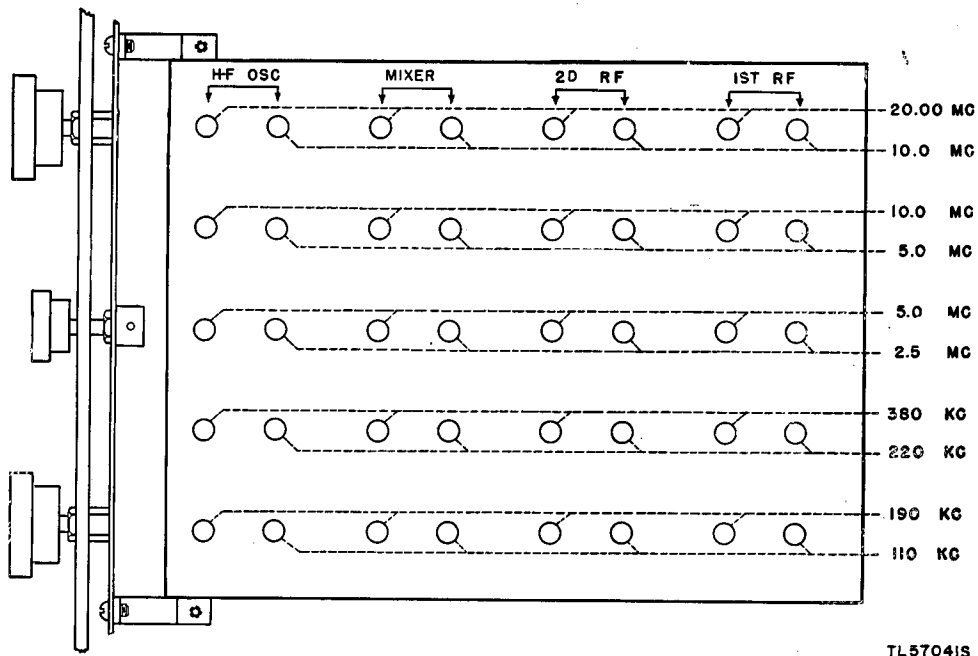
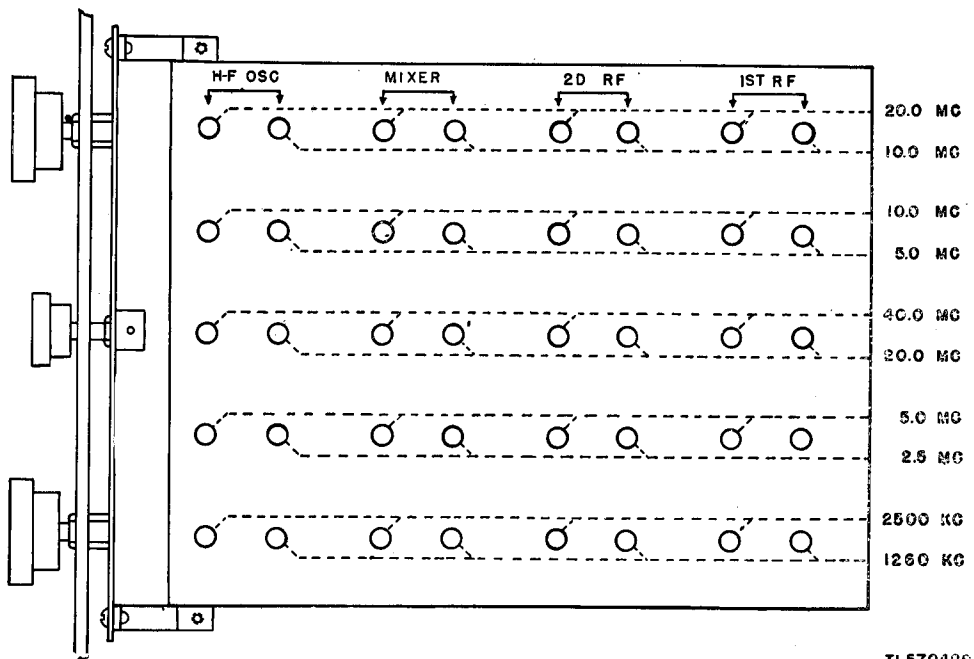

Figure 46. Radio Receiver BC-779-(*), alinement chart.
Figure 47. Radio Receiver BC-794-(*), alinement chart.
shown in figures 46, 47, 48, and 49, respectively. If necessary, the second harmonic can generally be used when the fundamental frequency is not available. For example, a signal generator covering all frequencies from 100 kc to 20 mc, in addition to being ideal for checking Radio Receiver BC-779-(*), could be used to check Radio Receiver BC-794-(*), by using the second harmonic of 20 mc instead of the 40 mc called for in figure 47. The signal generator should have an output of about 100 microvolts and an output impedance of approximately 100 ohms for best results when aligning the r-f and h-f oscillator circuits. For i-f alinement these values are not critical. The frequency calibration of the signal generator is extremely important in order that the receiver dial calibration be correct.
b. To correct dial calibration, refer to an alinement chart, figure 46, 47, 48, or 49 for the location of the h-f oscillator adjustments as well as the signal frequencies at which the settings should be made. If the 2.5- to 5.0-mc band is to be corrected, the signal generator may be *accurately* set to 2.5 mc and its second harmonic (if strong enough) used for the 5.0-mc end of the band. In either case, whether the 5.0-mc frequency is the fundamental or second harmonic, the 5.0-mc frequency *must* be accurate. This requires that the setting of the signal generator be accurately adjusted by the use of a frequency meter as described in paragraph 94. The output of the signal generator should be unmodulated and the SIGNAL MOD-CW switch on the receiver turned to CW. Set the BEAT OSCILLATOR control at 0, the AUDIO GAIN at 10, and the AVC-MANUAL switch on MANUAL. Disconnect the output meter and use headphones or loudspeaker to make the necessary adjustments by the zero beat method. Connect the signal generator to the antenna terminals for this test.
c. Set the receiver MAIN TUNING dial to the 5.0-mc end and then tune it to zero beat with the 5.0-mc output of the accurately calibrated signal generator. Notice the approximate dial error. Then turn the MAIN TUNING dial slightly toward the 5.0-mc calibration line until the beat note rises to a high pitch. Do not turn the dial far enough to raise the beat note so high that you cannot hear it. With the alinement screw driver adjust the trimmer capacitor marked H-F OSC-5.0 MC (fig. 46, 47,
48, or 49) until the beat note is again zero. Turn the MAIN TUNING dial still farther toward the 5.0-mc line and make a further adjustment of the trimmer capacitor to return to zero beat. Repeat this procedure as many times as necessary to bring the dial to exactly 5.0 mc. (It is evident that the dial could be set at once on exactly 5.0 mc and the trimmer turned enough at one time to produce zero beat, but the step-by-step method is recommended). Accurately set the signal generator to 2.5 mc by calibrating it with the frequency meter. Then tune in the 2.5-mc signal at the l-f end of the MAIN TUNING dial and correct the calibration step-by-step, as before, using the inductance trimming adjustment H-F OSC-2.5 MC (fig. 46, 47, 48, or 49). Accurately set the signal generator for an output of 5 mc again, and tune the receiver to this frequency. It will be found that the adjustment of the inductance at 2.5 mc has changed the correction previously made at 5.0 mc. This is perfectly normal, because an adjustment at one end of the dial also affects the other end of the band. It will therefore be necessary to go back and forth several times from 2.5 to 5.0 mc in order to bring both ends of the dial scale into exact agreement with the signal frequency. Be sure that the signal generator is always *accurately* set.
c. Starting with the 2.5- to 5.0-mc band, set the MAIN TUNING dial at 5.0 mc (band spread dial at 100) and adjust the frequency of the signal generator for peak deflection of the output meter. Then check and adjust the setting of the trimmer marked MIXER and 5.0 MC in figure 46, 47, 48, or 49 for maximum reading on the output meter. Repeat this procedure on trimmers indicated as 2D RF and 1ST RF in the same row. If readjustments on one of these settings result in a sizable increase in output meter reading, slightly alter the SENSITIVITY control to reduce the reading to half-scale. After each adjustment check the tuning of the receiver to make sure that the test signal is still accurately tuned. The BAND SPREAD control may be used as a vernier for this purpose in those bands in which it operates (par. 15c). *This tuning check is extremely important at the high end of the 10- to 20-mc and 20- to 40-mc bands where there is some slight interaction between the mixer and h-f oscillator circuit.* After checking the three trimmers at the high end of this band, turn the MAIN TUNING dial to 2.5 mc and retune the signal generator to suit. Then check the three inductance adjuster settings marked 2.5 mc in the same row. Since adjustments at one end of a band also affect the other end of that band, it will be necessary to repeat the above procedure until no further improvement can be secured. The number of repetitions necessary will depend on how much mistuning existed to start with. Check the rest of the bands in the same manner.